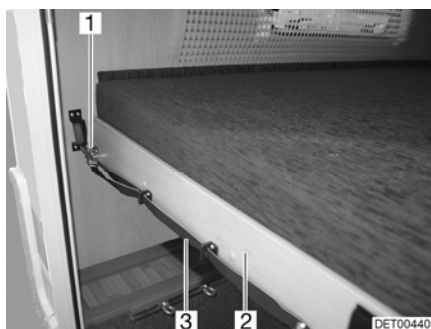

Fig. 116 Bunk bed (rear)
- Pull on the loop (Fig. 116,3) and release the latch (Fig. 116,1).
- Pull the slatted frame (Fig. 116,2) together with the mattress forward until it latches in place.